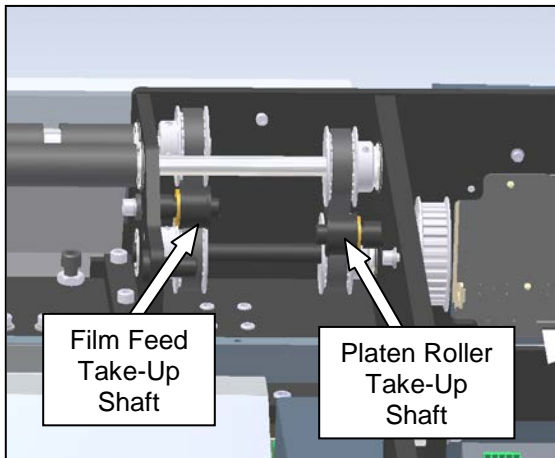

Figure 3-159. Belt Take-Up Shafts
2. Loosen the film feed belt take-up shaft and the platen roller belt take-up shaft to create slack in these two belts (Figure 3-159).